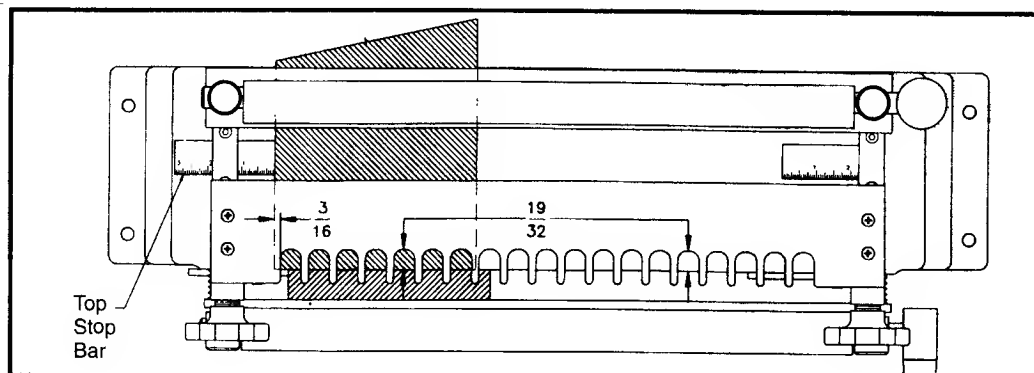

Fig. 8
3. Place $\frac{1}{2}$ " Half-Blind Dovetail templet on top of drawer front and position so that there is about $1\frac{9}{32}$ " (see Fig. 8), from the back edge of the templet slots to the edge of the drawer front at both ends of the templet and tighten knobs to secure templet in place.
4. Position drawer front so that the left edge is $\frac{3}{16}$ " (see Fig. 8), past the left edge of the first templet slot and clamp board in place.
5. Slide top stop bar (see Fig. 8), to the right to contact drawer front and lock in place.